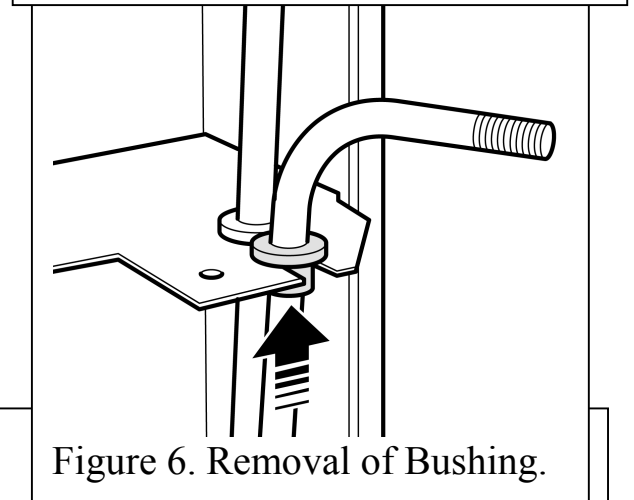

Figure 6. Removal of Bushing.
2. Place a suitable flat instrument on the underside of the bushing and lift the bushing clear of the mounting bracket (see figure 6).
7. Place a suitable flat instrument on the underside of the bushing and lift the bushing clear of the mounting bracket (see figure 6).